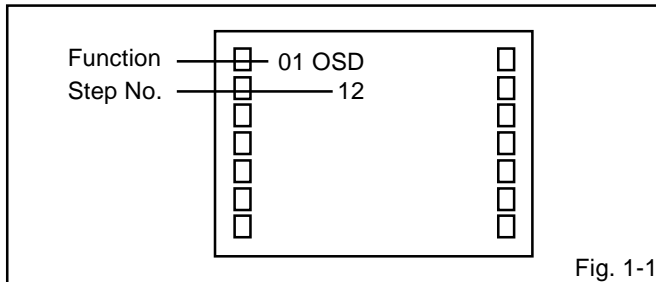

Fig. 1-1
2. Press the VOL. DOWN button on the set and the Channel button (9) on the remote control for more than 1 second to appear the adjustment mode on the screen as shown in Fig. 1-1.
5. Activate the adjustment mode display of Fig. 1-1 and press the channel button (03) on the remote control to select "CUT OFF".
4. Activate the adjustment mode display of **Fig. 1-1** and press the channel button **(16)** on the remote control to select "G DRV".
3. Activate the adjustment mode display of **Fig. 1-1** and press the channel button **(04)** on the remote control to select "HPOSI".
3. Activate the adjustment mode display of **Fig. 1-1** and press the channel button **(08)** on the remote control to select "VPOSI".
3. Activate the adjustment mode display of **Fig. 1-1** and press the channel button **(07)** on the remote control to select "VSIZE".
3. Activate the adjustment mode display of **Fig. 1-1** and press the channel button **(09)** on the remote control to select "VLIN".